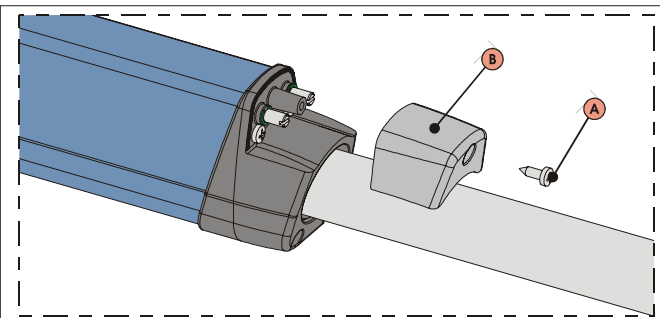

Fig. 19
- 1) Unscrew the upper fastening screw, Fig.19 ref.A, and remove the cap, Fig.19 ref.B.
- 5) Reposition the cap, Fig.19 ref.B, and tighten the fastening screw again, Fig.19 ref.A.